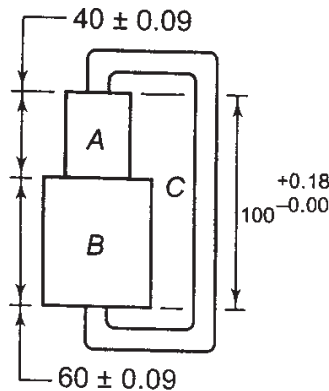

Fig. 1.
- b) An assembly of three components A, B and C is as shown in fig. 1. The dimensions of three components are normally distributed and natural tolerance is equal to design tolerance as shown. Determine the percentage of assemblies where interference is likely to occur. [10]